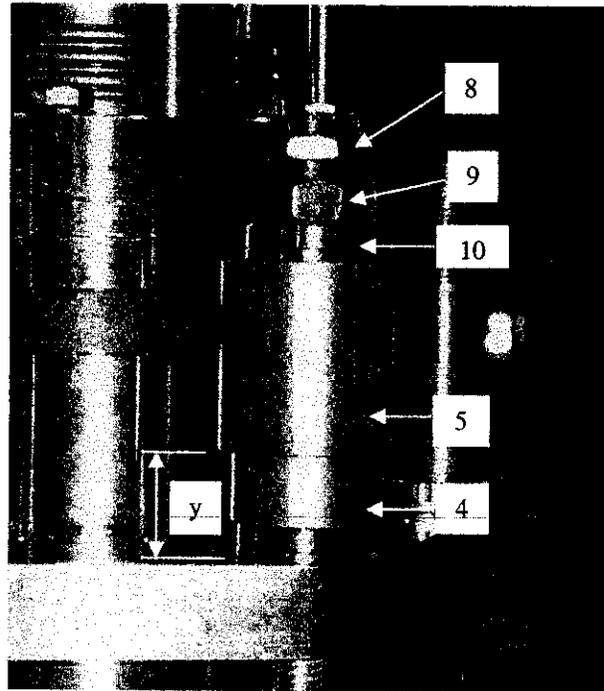
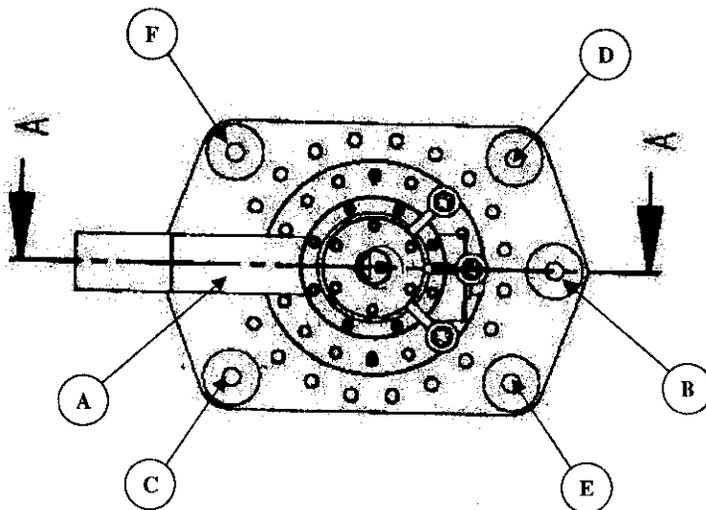

Figure 1.28a An installed Belleville Washer Assembly.
Figure 1.29.1.5 The specified sequence for tightening the Belleville Washer Assemblies.
- 1.28 Install Belleville Washer Assemblies on each tensioning stud per Figures 1.28a and 1.28b. A spherical washer must be placed below the Belleville washer holder on each stud. In the figures: Items 11 (10 each) are Belleville Washers, arranged as shown; Items 6 (2 each) are flat washers; Items 4 and 5 are the Belleville Washer Holder; Item 10 are Spherical Washers for above and below the washer holder; Item 9 is a loading nut; and Item 8 is a jam nut.
1.29.1.2 Tighten the 6 loading nuts finger-tight. With adjustable parallels, measure and record the gap "y" indicated in Figure 1.28a between Item 5 and the current lead top flange at the 6 locations specified in Figure 1.29.1.5. Units are mm.
1.29.1.4 Using the sequence A through F in Figure 1.29.1.5, tighten the loading nuts 1/4 turn until the total compression is 1.8 mm at each of the six locations. As each loading nut is tightened 1/4 turn, check off the appropriate line.
1.29.1.5 Remove the adjustable parallels from under each Belleville washer assembly, then replace them and measure the final gaps 'y' in Figure 1.28a. Units are mm.
1.29.2.2 Tighten the 6 loading nuts finger-tight. With adjustable parallels, measure and record the gap "y" indicated in Figure 1.28a between Item 5 and the current lead top flange at the 6 locations specified in Figure 1.29.1.5. Units are mm.
1.29.2.4 Using the sequence A through F in Figure 1.29.1.5, tighten the loading nuts ¼ turn until the total compression is 1.8 mm at each of the six locations. As each of the loading nuts is turned ¼ turns, check off the appropriate line.
1.29.2.5 Record the final measured gaps 'y' in Figure 1.28a. Units are mm.